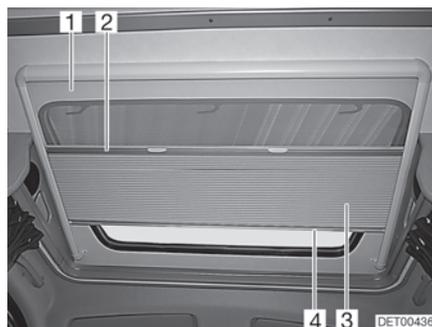

Fig. 49 Roof window
The Roman shade (Fig. 49,3) is permanently connected to the insect screen (Fig. 49,1).
- Hold the Roman shade in the centre of the bottom rod (Fig. 49,4) and carefully draw it downwards.
- Opening:** ■ Slowly return the Roman shade to its initial position with the bottom rod (Fig. 49,4).
- Closing:** ■ Hold the insect screen at the centre of the bottom rod (Fig. 49,2) and carefully pull it downward as far as it goes.
- Opening:** ■ Slowly return the insect screen on the bottom rod of the Roman shade (Fig. 49,4).